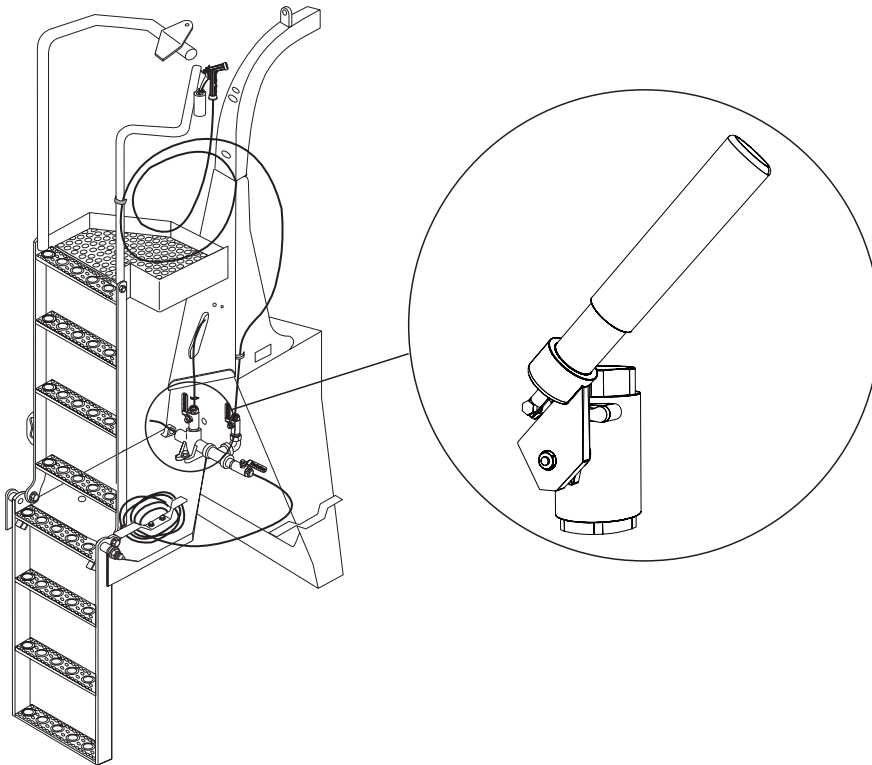

Figure 1: Operator Presence Water Ball Valve Location.
2. Locate the operator presence water ball valve on the vehicle. See Figure 1.